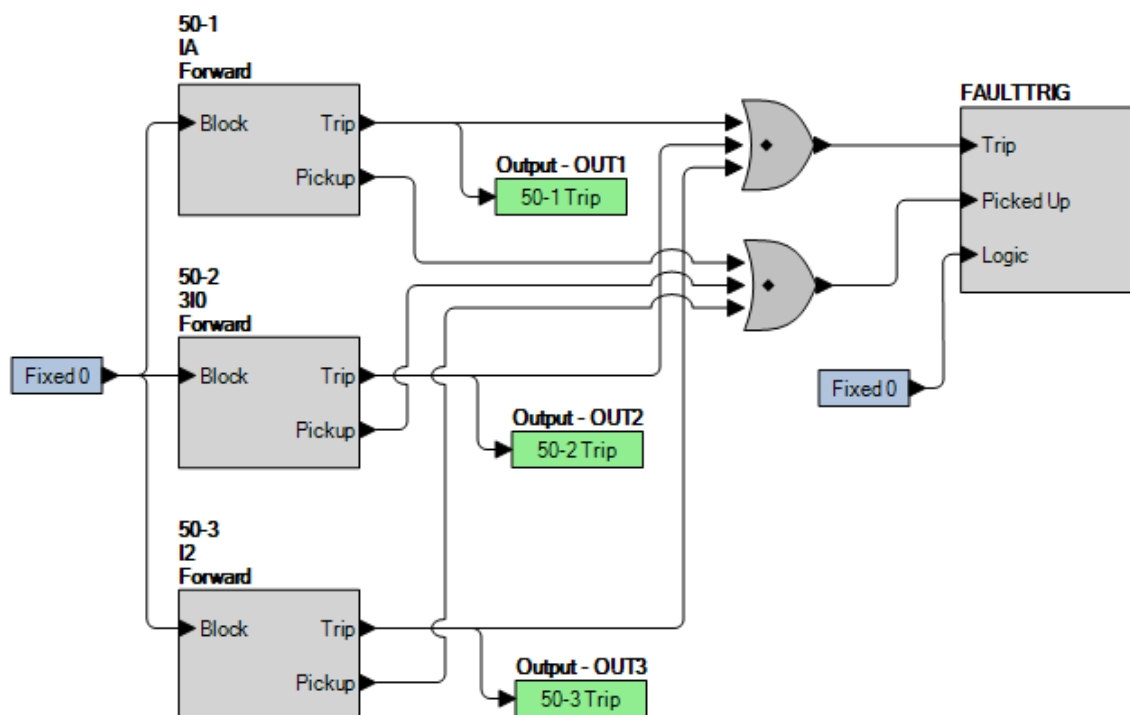

Figure 75-1. BESTlogicPlus Settings
Step 2: Use BESTCOMSPPlus to configure the BESTlogicPlus programmable logic shown in Figure 75-1.